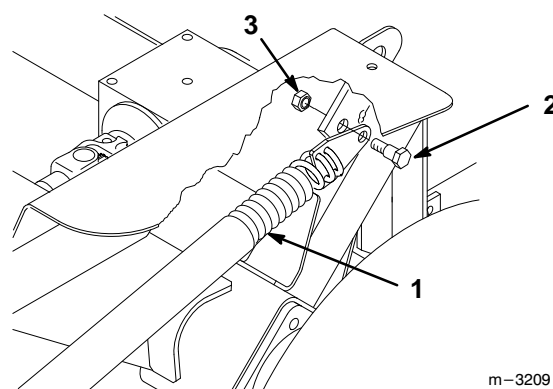

Figure 2
6. Remove 3/8" x 7/8" (23 mm) shoulder bolts and 3/8" locknuts securing spring end plate assemblies to carrier frame (Fig. 2).